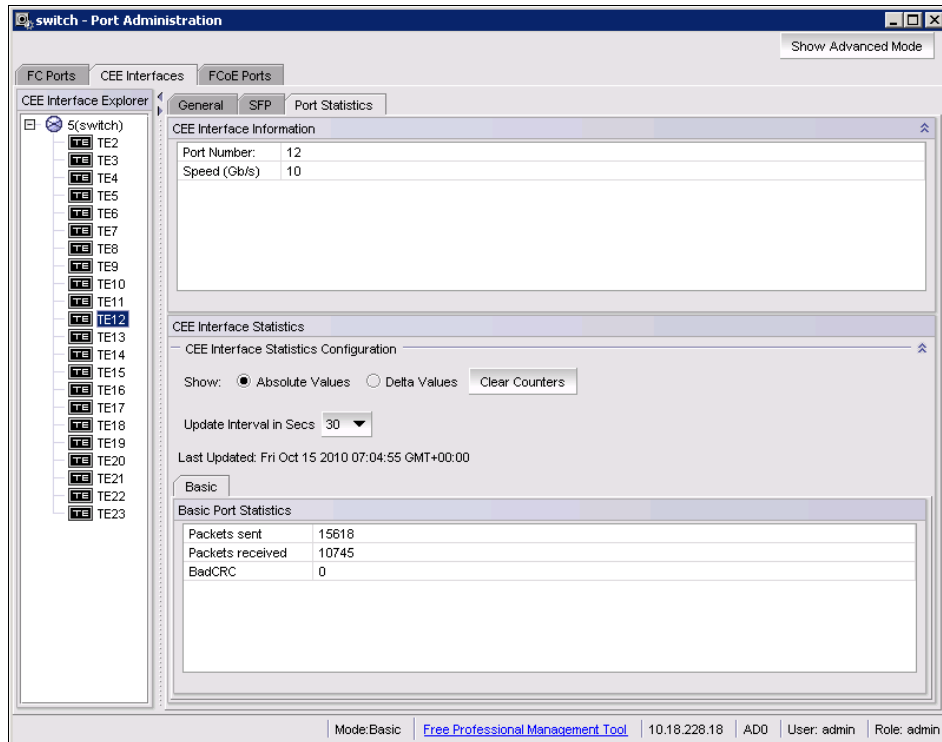

Figure 5-36 CEE Interfaces, Port Statistics, Basic Mode
3. Click the **Port Statistics** tab. Figure 5-36 shows the Port Statistics tab with basic statistics displayed.